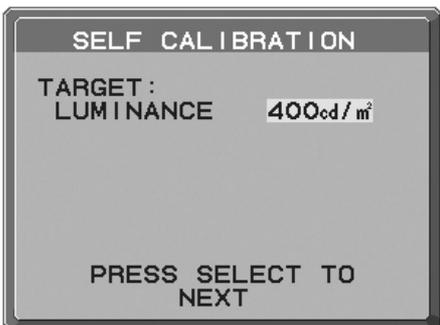

Figure 4
4. Set the target LUMINANCE (cd/m²) (**Figure 4**). Press SELECT to go to the next section.